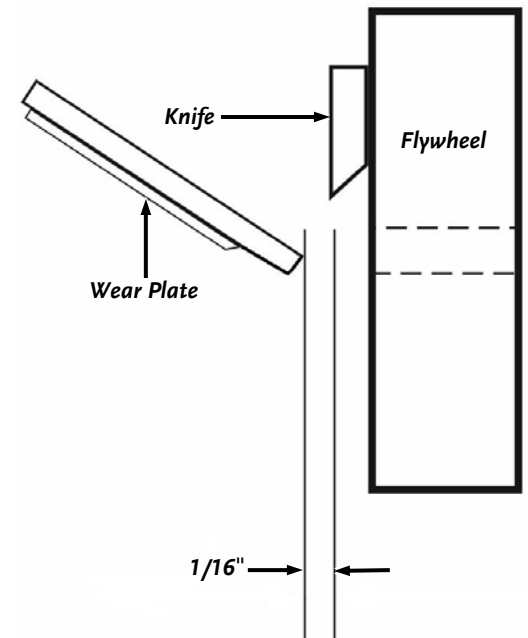

Figure 23
When you replace the Knife, check and set the clearance between the Knife and Wear Plate. Set this clearance or gap to 1/16" (**Figure 23**). If the gap between the Wear Plate and the Knife is not set correctly, you will have excessive vibration when chipping and the Knife will seem to be dull. The Wear Plate should have a square edge and be free of dents or gouges. The Wear Plate can be hand sharpened. Be careful not to overheat it during the sharpening process. This will change the characteristics of the steel and you will then have to replace the Wear Plate.
5. Tighten the Nuts when the Wear Plate is in the correct position (**Figure 23** on page 21).